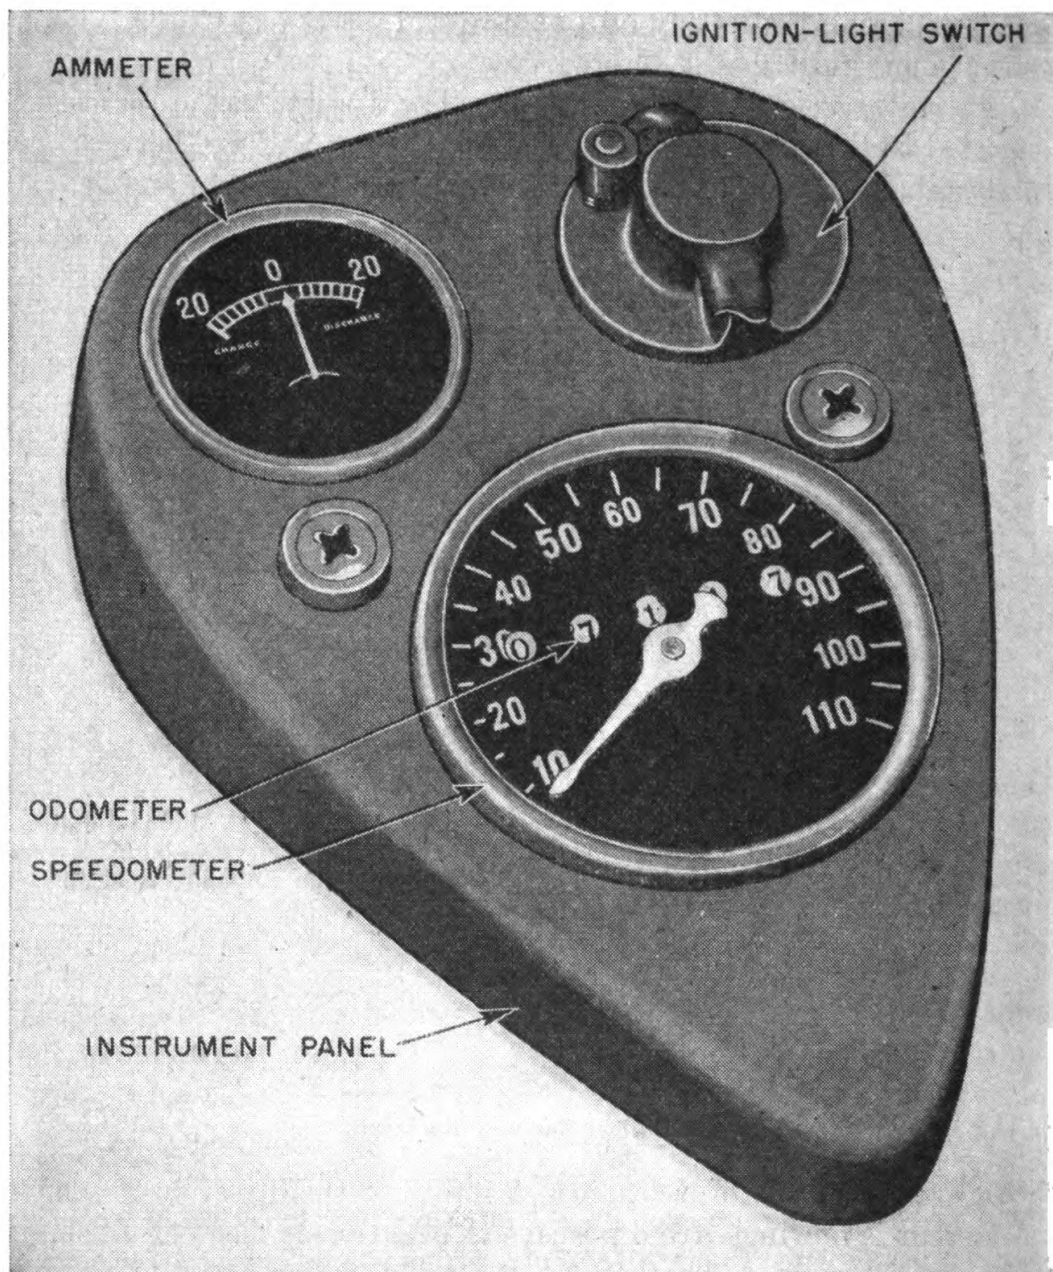

FIGURE 104.—Motorcycle instrument panel (Indian).
**87. Instruments.**—The instrument panel (fig. 104) is located on top of the fuel tank where it can easily be seen when driving the motorcycle. It is a sheet metal housing which incloses the ignition-light switch, ammeter, speedometer and odometer, and (on the Harley-Davidson) lights indicating oil pressure and battery charging. Each instrument is individually lighted.
*a. Ammeter or generator light.*—(1) The Indian has an ammeter connected to the positive terminal of the battery and the hot post or live terminal of the ignition-light switch. In a d-c (battery-ignition)